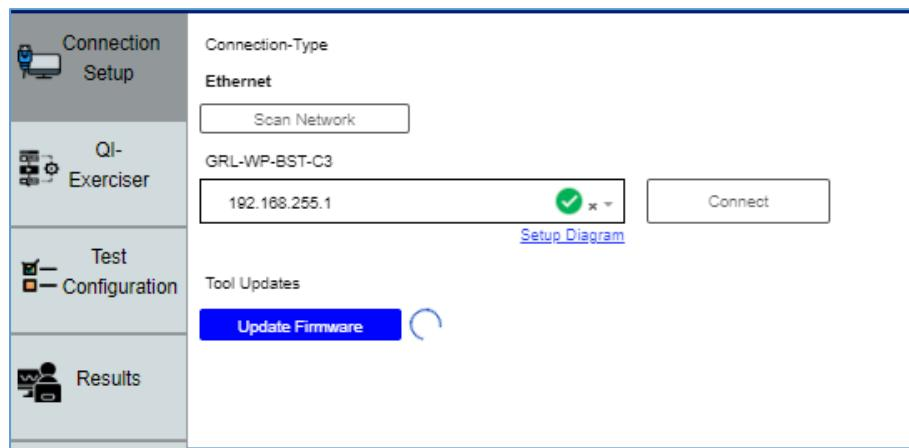

FIGURE 7.4: UPDATE GRL-C3 FIRMWARE– #2
2. The firmware update process will start and may take a few minutes to complete (Figure 7.4 below).